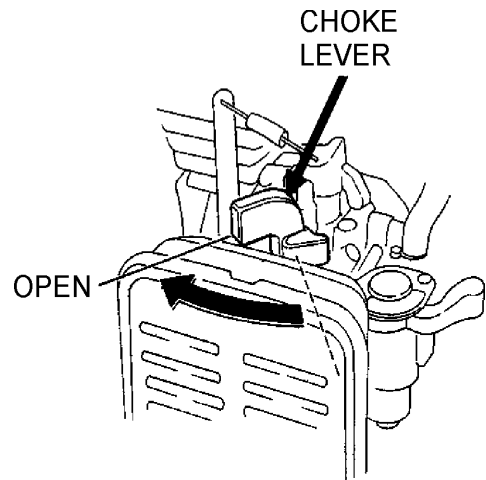

Figure 22. Engine Choke Lever (Open)
3. Place the ***choke lever*** (Figure 22) in the "**OPEN**" position if starting a ***cold*** engine.